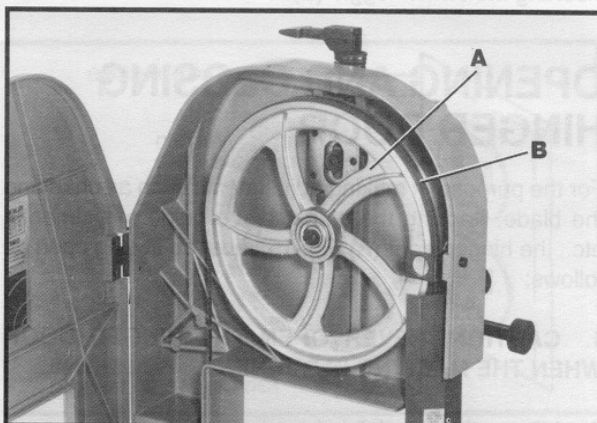

Fig. 19
3. Rotate upper wheel (A) Fig. 19, clockwise by hand and check to see if the blade (B) rides true on the approximate center of the two wheels.